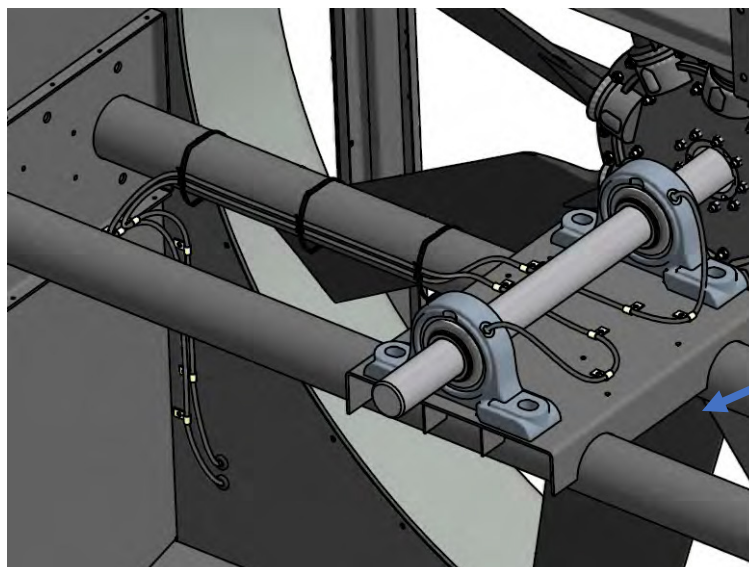

Figure 12. Accelerometer Location - Belt Drive
- Attach the accelerometer (provided by others) onto the box beam as shown in **Figure 12**. The accelerometer should be placed on the top of the bearing support channel, near the fan side bearing, as shown.